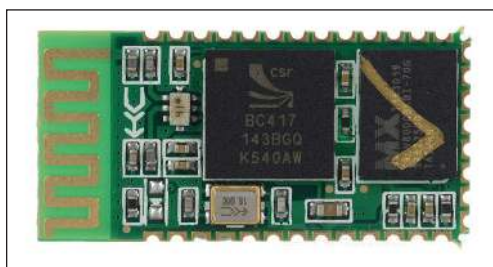

FIGURE 3
I selected Bluetooth as the wireless protocol for this project. That's mainly because the Bluetooth module I had on hand is a Class 2 and the distance between the delivered food and the receiver is also less than 10 meters. I used an HC-05 module (**Figure 3**) because I have quite a stock of these modules from my previous projects that I did back in 2013. Moreover, this module is very easy to implement because the PCB has castellation pads. These pads make it easy to either mount it as a SMT device on a PCB or insert to breadboard after soldering in the headers. Besides all that, this module is also very versatile in that configuration to it are all via the AT commands in a UART terminal. The module is also very widely used, so there are many articles and websites providing useful information about its configuration. And, the best part is you can get it for less than \$5 (US).